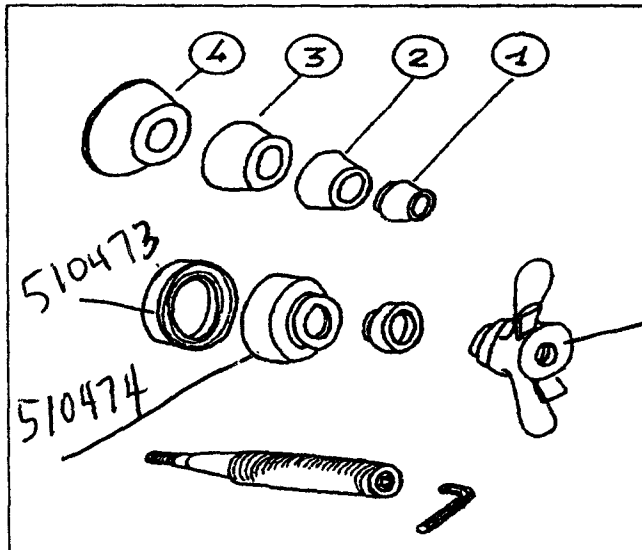

Fig.4
**#4016927 Conic adaptor with quick nut (Fig.4).**